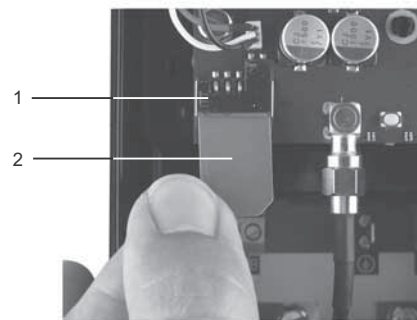

Fig. 11 Inserting the SIM card
3. Insert the SIM card into the CIM 250. See fig. 11.
Note The connectors on the SIM card must face inwards towards the CIM 250. See fig. 11.